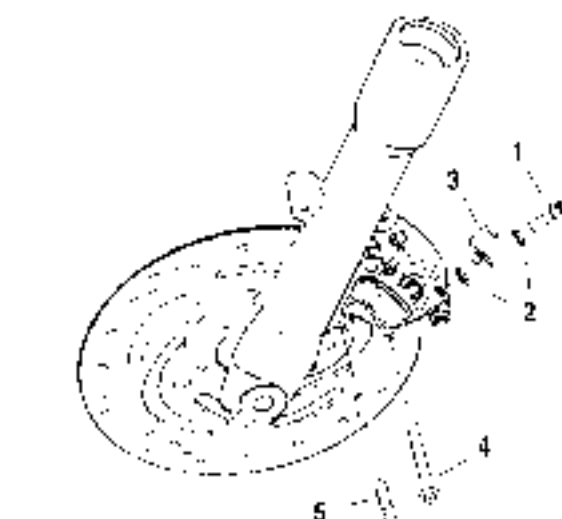

Figure 2-70. Front Caliper Mount
1. See Figure 2-70. Remove the banjo bolt (1) and both steel/rubber washers (2) to detach front brake line (3) from caliper. Discard washers.
2. Remove both the upper (4) and lower (5) mounting bolts (12 pt/10 mm). Lift caliper upward to remove from brake disc.